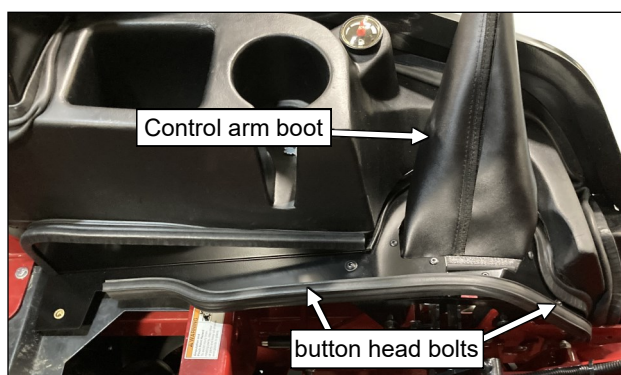

Fig. 10.10 (Left side under-seat panel)
- 10.10 See fig. 10.10. Loosen the Velcro at the top of the control lever boot on the left under-seat panel. Slide the boot over the left control lever and into place against the left fuel tank. Secure with two 1/4" flanged button head bolts and tighten snug. Close the Velcro around the control arm.